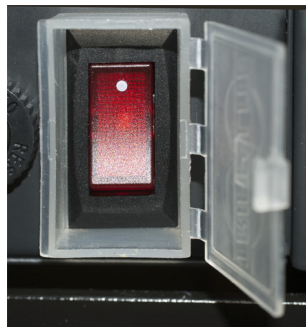

FIGURE 4-1 Instrument console power switch
1. Turn the instrument console on using the power switch located above the front console door (FIGURE 4-1).